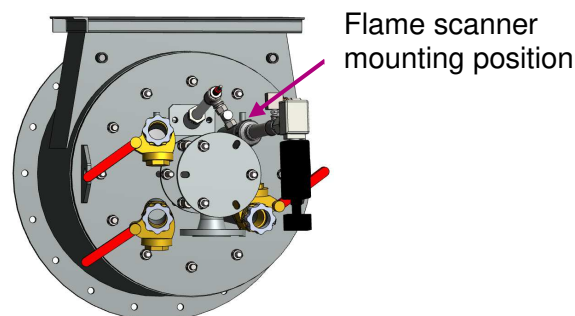

Figure 3.2 – Flame scanner installation
**Flame-scanner:** Two assembling ports (figure 3.2) are located near the gas gun and pilot assemblies. When using a burner with a (standard) clockwise swirling flame, the flame scanner shall be located in the port shown in figure 3.2 to prove both pilot- and main-flame. If a second flame-scanner is preferred, use one of the lower sight glass positions for this. Make sure the flame-scanner is connected to the electrical circuit of the burner. For detailed information on flame-scanner installation and connection, refer to the supplier's literature.